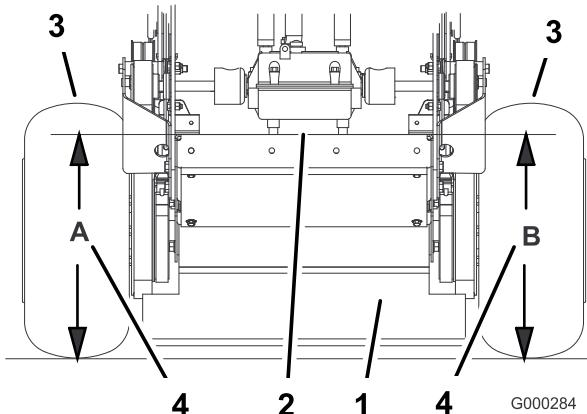

Figure 63
4. Measure engine deck height at location **A** (Figure 63).
5. Measure engine deck height at location **B** (Figure 63).